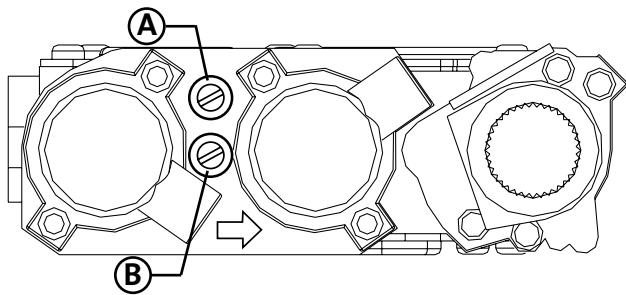

Figure 9.1. Pressure test points.
**Pressure Test:** Attach a manometer to the appropriate test point on the valve. See fig. 9.1.